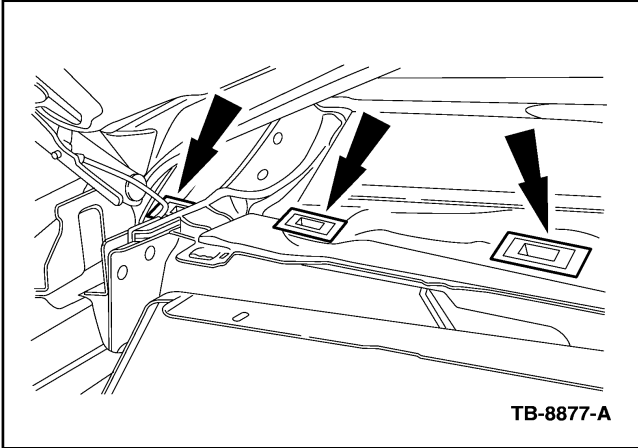

Figure 1 - Article 08-26-7
3. Verify that the ten (10) cowl panel mount grommets and seals are installed and sealing tightly to the vehicle. If any are missing, or the seals are damaged, replace as necessary. (Figure 1)